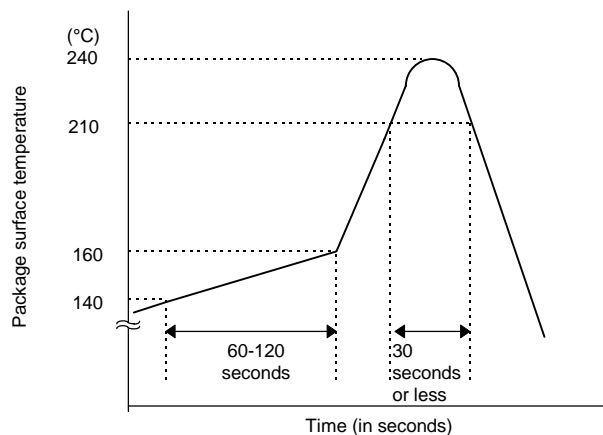

Figure 4 Sample temperature profile for infrared or hot air reflow
- Refer to Figure 4 for an example of a good temperature profile for infrared or hot air reflow.
(3) Using hot air reflow
- For an example of a recommended temperature profile, refer to Figure 4 above.
(4) Using solder flow